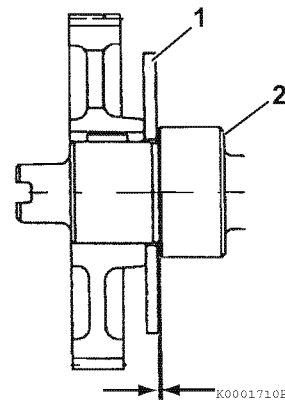

Figure 6-50
- **Method B:** Use a feeler gauge to measure the clearance between the thrust plate (**Figure 6-50, (1)**) and front camshaft bearing (**Figure 6-50, (2)**). See *Thrust Bearing* on page 6-10 for the service limit.